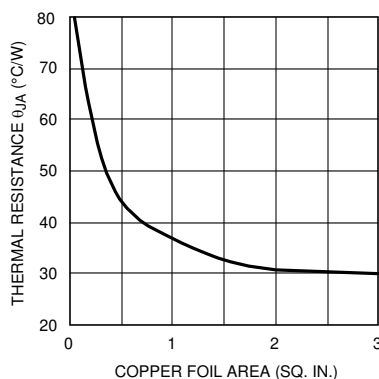

图 6-4. Thermal Resistance (Typical) for 7-L DDPACK Package Mounted on 1 oz. (0.036 mm) PC Board Foil
5. Choose a copper area that will ensure the specified $T_{J(MAX)}$ for the calculated θ_{JA} . θ_{JA} as a function of copper area in square inches is shown in Figure 6-4.
4. Finally, using this value for θ_{JA} choose the minimum value of copper area from Figure 6-4.
Examining 图 6-4, we see that we cannot attain this low of a thermal resistance for one layer of 1 oz copper. It will be necessary to derate the part by decreasing either the ambient temperature or the power dissipation. Other solutions are to use two layers of 1 oz foil, or use 2 oz copper (see 表 6-1), or to provide forced air flow. One should allow about an extra 15% heat sinking capability for safety margin.